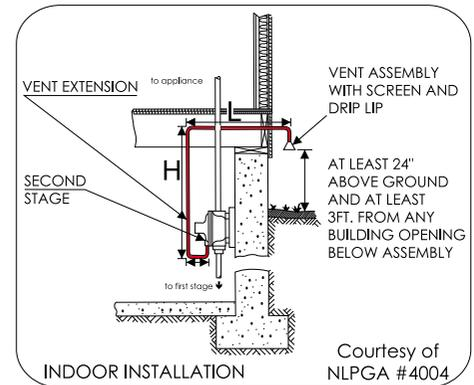

Figure 3
- Keep pipe length of bends to a minimum to prevent eventual loss of capacity compatible with normal valve function. In figure 3 you can find the dimensions to respect the valve’s normal function (H = 39 inch; L = 31 inch).